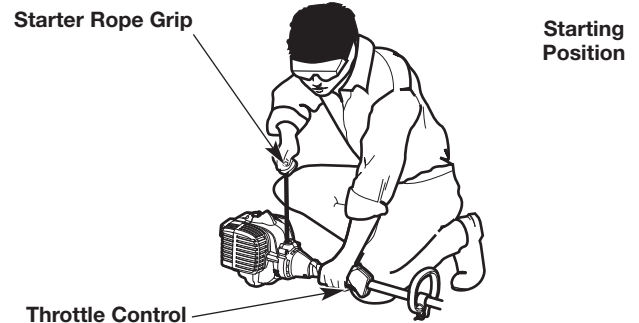

Fig. 7
WARNING: Avoid accidentally starting the unit. To avoid serious injury, the operator and the unit must be in a stable position when pulling the starter rope (Fig. 7).
3. Crouch in the starting position (Fig. 7).
5. Pull the starter rope with a controlled and steady motion **5 times** (Fig. 7).